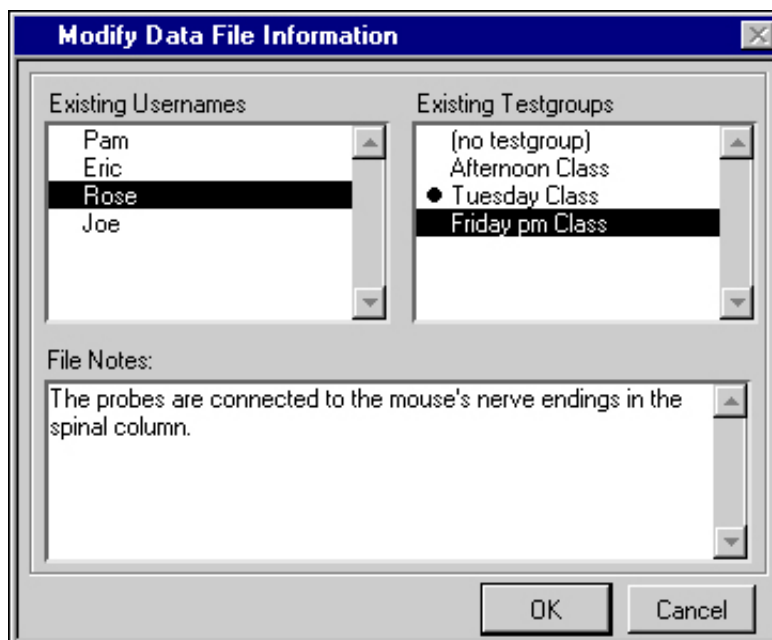

Figure 2-15. Modify Data File Information Dialog Box
- **Modify**—Clicking on this button displays the Modify File Information dialog box shown in Figure 2-15, where you can view and modify some of the general information about the selected file.
You click on the **Modify** button in the Data File Summary dialog box to open the Modify Data File Information dialog box shown in Figure 2-15.